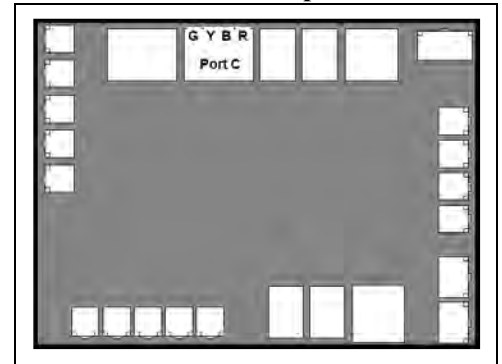

Figure 8
6. Use "Port C" on the microprocessors as indicated. Connecting the "Y" to the "Y" and the "B" to the "B" on each heat pump's port "C" connection point. The "G" and "R" connection points are not used. See Figure 8.